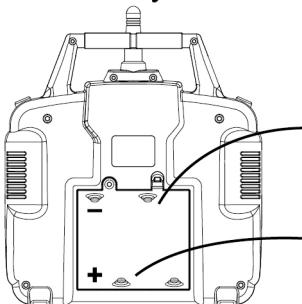

Figure 2
2. Install 4 "AA" batteries (not included) into the back of transmitter than replace battery cover and reinstall the screw (Figure 2).